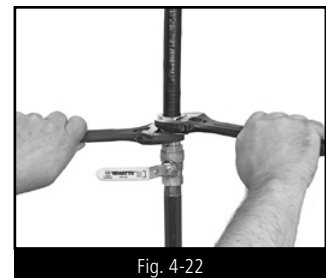

Fig. 4-22
**STEP 5 WRENCH FITTING (FIG. 4-22)**